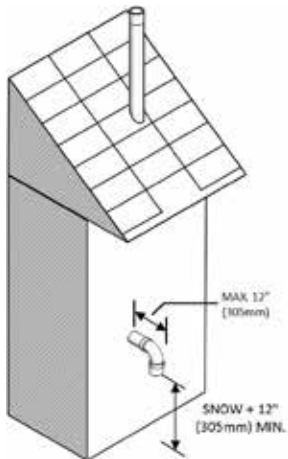

Figure 9: Rooftop vent terminal configurations
the air intake terminal is turned down and the side wall of the building is not exposed to large wind loads i.e., prevailing wind (see Figure 9).
- You must maintain at least the minimum separation of exhaust vent termination from unit's intake air as illustrated in figures 9, 10, 13 and 15. Failure to do so can result in a dangerous situation where exhaust gases are pulled in with combustion air. Damage to the unit can result from a failure to maintain these separations. Improper installation will void the warranty.